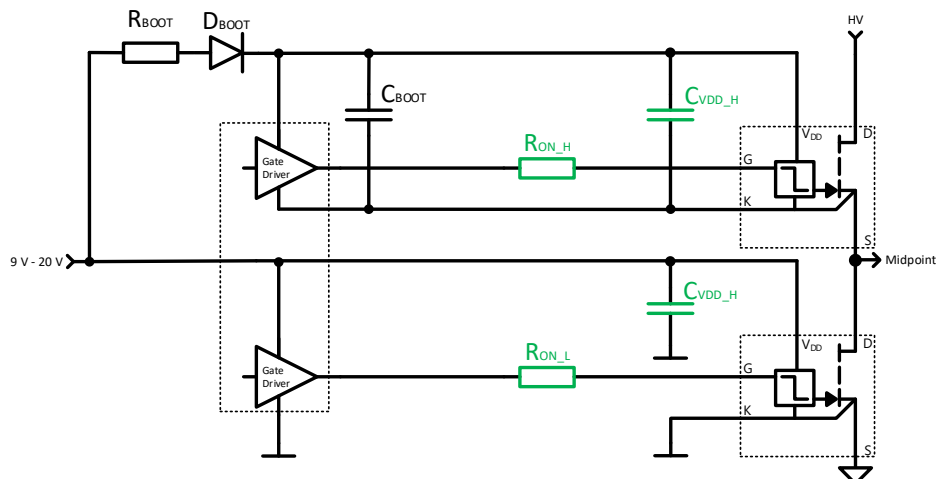

Figure 10 – External SMD components (in green) needed to drive ICeGaN with a bootstrap HB gate driver
2. Driving ICeGaN devices is very simple and cost effective. Only a standard HB driver and four SMD components are required, See Figure 10.